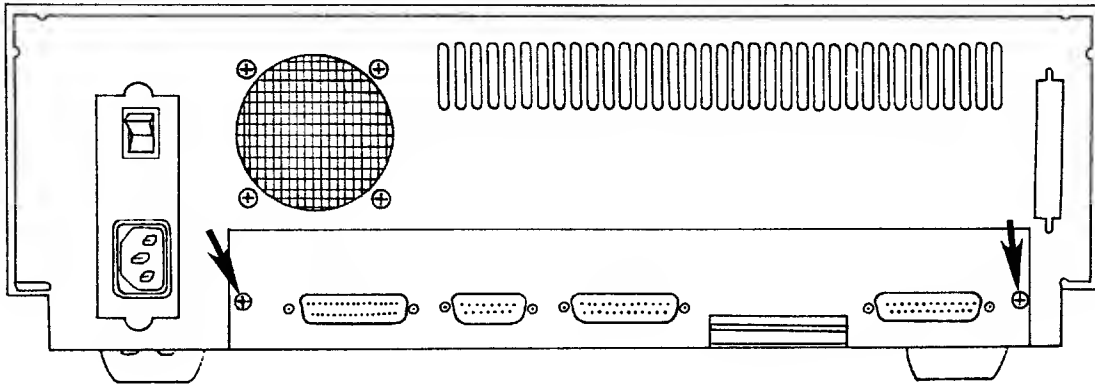

Figure 7-2: Motherboard Screw Locations (Rear Panel)
3. Remove the two screws on the rear panel that hold the motherboard and rear panel cut-out plate (Figure 7-2). To prevent the board from falling, gently support it with your hand when removing the last screw. Set the screws and plate aside.